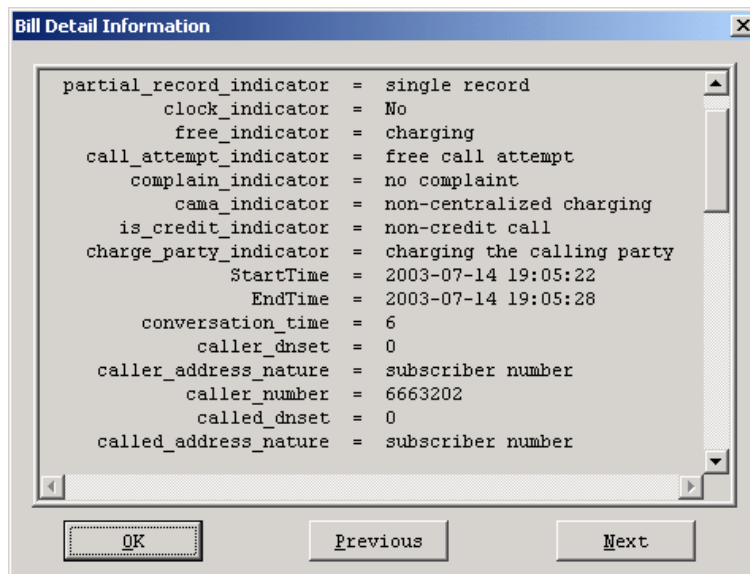

Figure 3-11 CDR details
- 4) Double-click a particular CDR. The CDR details are displayed in a list box, as shown in Figure 3-11.